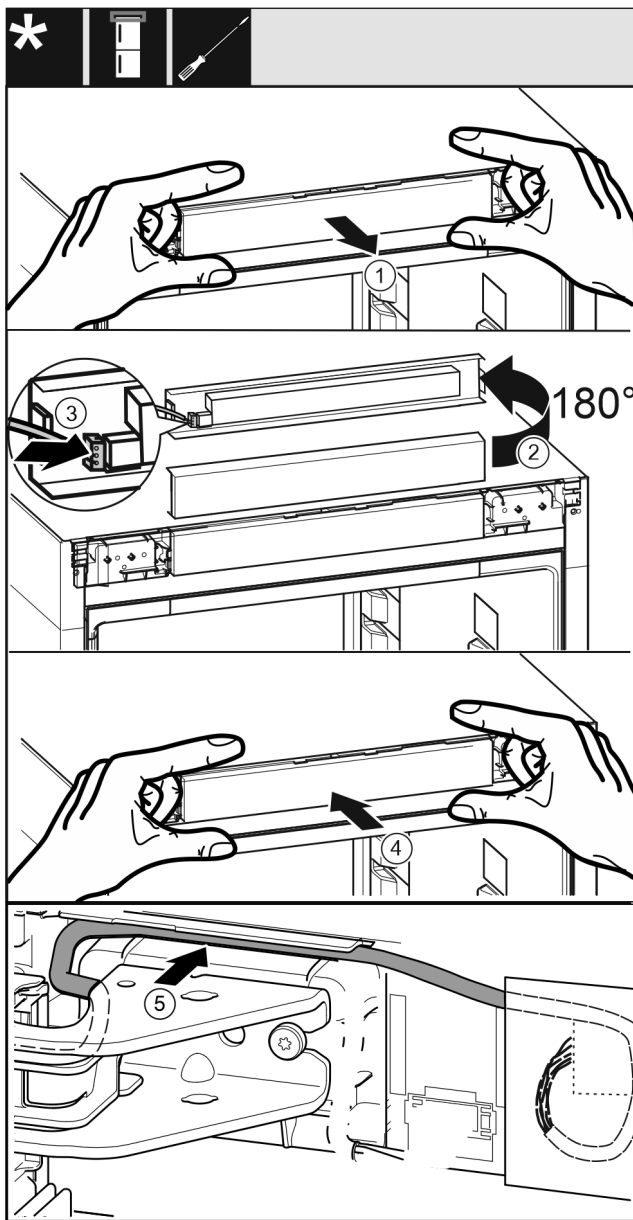

Fig. 43
- Take off the operating panel carefully. Fig. 43 (1)
- Turn the panel upwards through 180°. Fig. 43 (2)
- Engage the plug in the control panel. Fig. 43 (3)
- Latch the control panel back into the appliance. Fig. 43 (4)
- Carefully position the grey cable in the guide above the top bearing bracket. Fig. 43 (5)